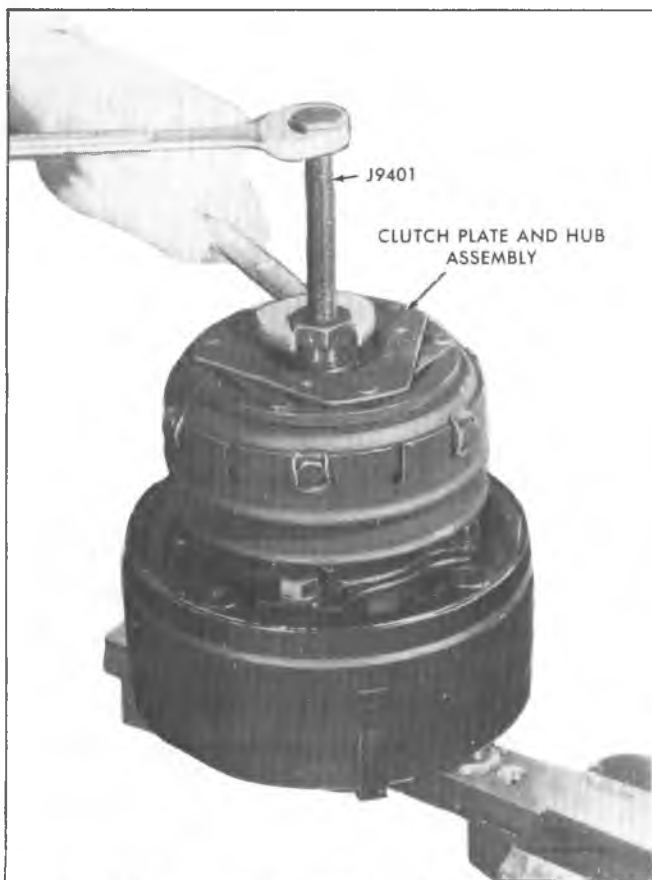

Fig. 71--Removing Clutch Plate and Hub Assembly
3. Thread clutch plate and hub assembly remover J-9401 into hub. Hold body of tool with a wrench and turn center screw into J-9401 remover to remove clutch plate and hub assembly (Fig. 71).